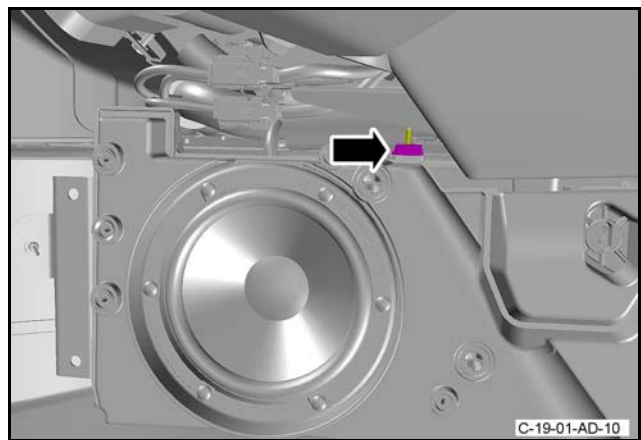

Figure 17
- 35. Connect the electrical connector to the footwell speaker (refer to Figure 17).